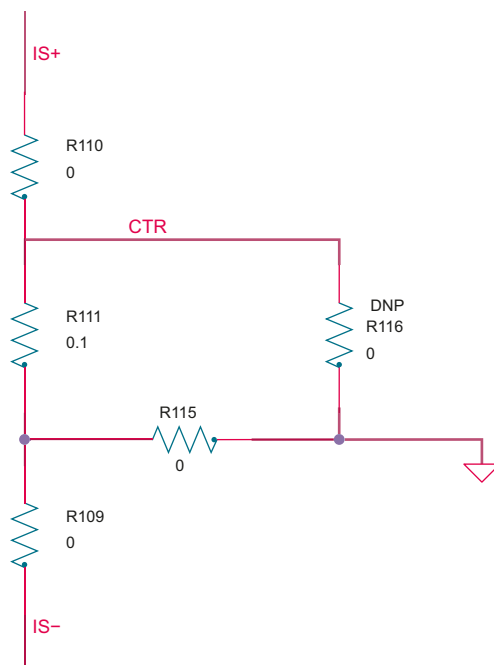

Figure 12. Resistor configuration
1. Make sure that R109, R110, R111 ($0.1\ \Omega$ shunt) and R115 are populated and that R116 is not placed (see Figure 12).